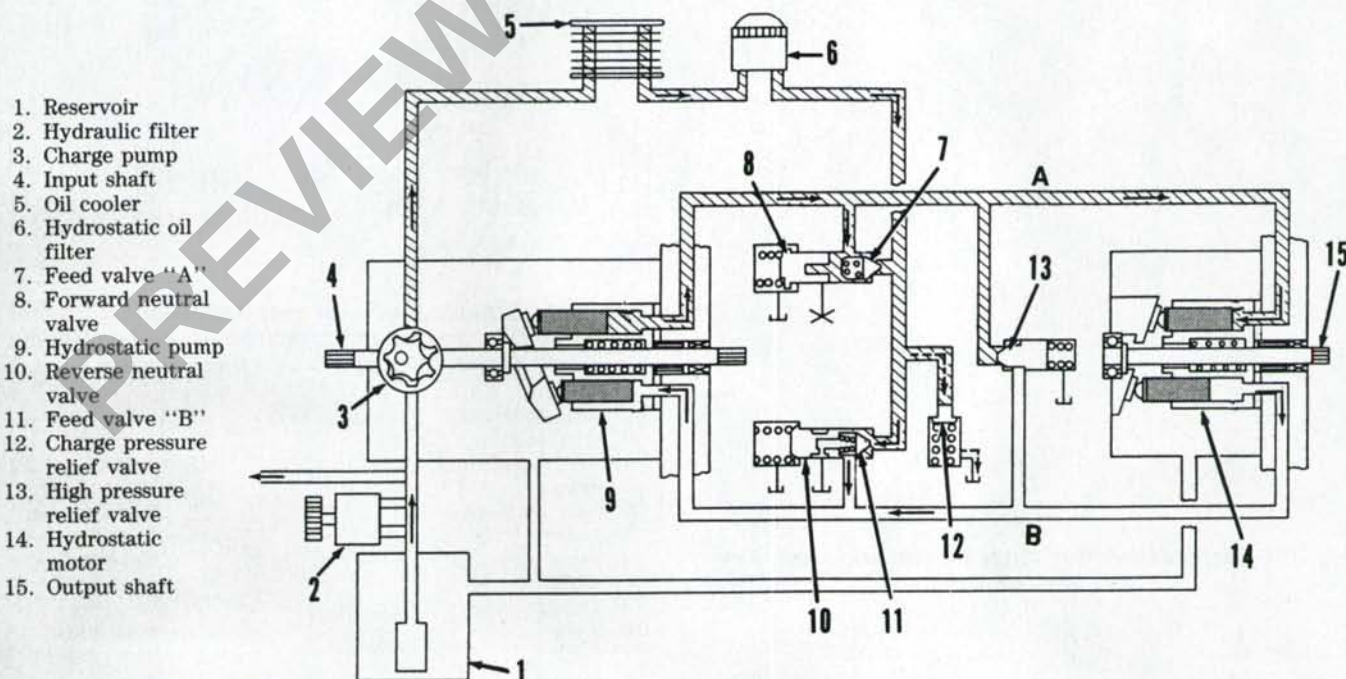

Fig. 155—Schematic drawing showing hydrostatic transmission oil flow in forward position.
Refer to Fig. 155 for schematic drawing of hydrostatic transmission. When hydrostatic pump swash plate is in neutral (vertical) position, there is no pumping action of pump pistons and no flow of oil from pump (9) to motor (14). Oil flows from charge pump (3) through oil cooler (5) and oil filter (6) to feed valves (7 and 11) and neutral valves (8 and 10). The charge pump relief valve (12) maintains 420-560 kPa (61-81 psi) pressure in the circuit to provide lubrication for pump and motor cylinder blocks.